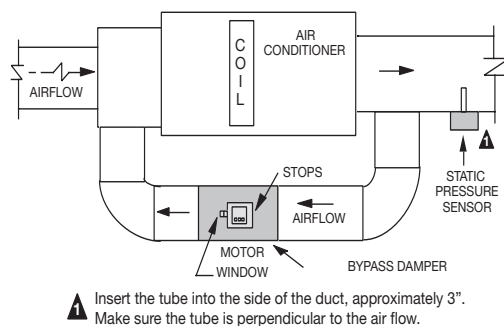

Fig. 2
3. Locate the **101ASPC** pressure switch and air tube on the supply duct between the bypass and 1st supply damper take-offs. (See Fig. 2)